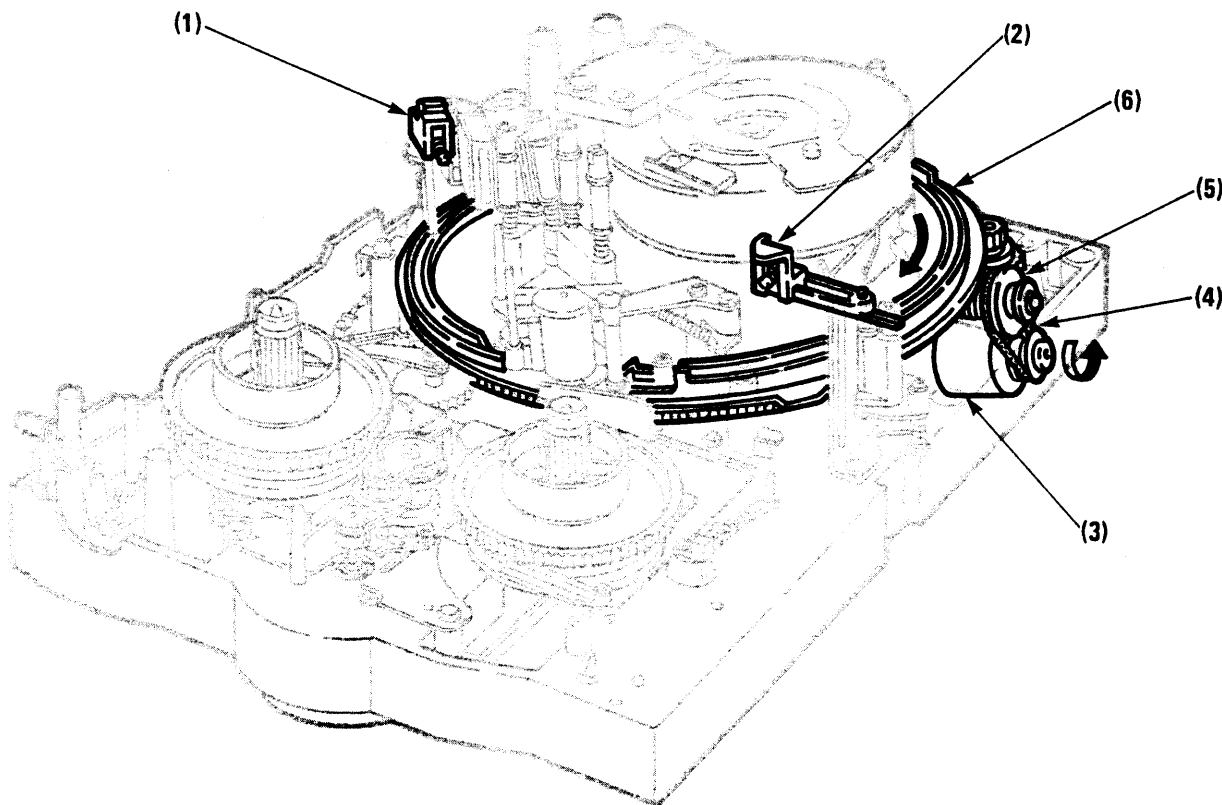

Fig. 3-2-1
1. TAPE-END DETECTION DEVICES (See Fig. 3-2-1.)